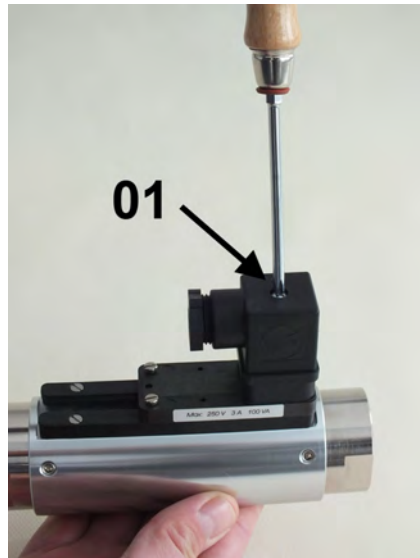

Fig. 22: Detach socket
1.  Release the fixing screw (Fig. 22/1) from the socket.
9.  Plug the socket onto the connection plug and tighten the fixing screw. (Fig. 22/1)